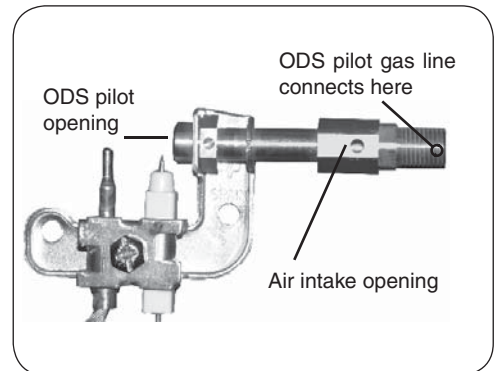

Fig. 21-1
1. Turn the unvented gas log set to the **OFF** position and allow it to cool. Inspect the ODS pilot area (see Fig. 21-1) for any visual contamination or debris (usually lint, hair, spider webs, or small insects). Lightly brush off all external surfaces while vacuuming loosened debris from the ODS pilot opening. **Be careful not to brush any foreign material into the ODS pilot opening.**
2. Clean out the air intake opening (see Fig. 21-1) by lightly brushing around the opening while vacuuming.
4. If the ODS pilot flame does not burn as indicated in the instructions, extinguish the ODS pilot by turning the valve to the full **OFF** position. Using a compressed air duster, insert the flexible nozzle through the air intake opening, ensuring that the nozzle is pointed toward the ODS pilot opening (see Fig. 21-1). Blow air through the air intake opening to clear out any debris that may be in the system.
5. Relight the ODS pilot and inspect it to be sure it is burning as shown in the instructions. If not, extinguish the ODS pilot and **turn off the gas supply to the gas log set.** Using an adjustable or a 1/4" wrench, disconnect the ODS pilot gas line (see Fig. 21-1) from the valve.